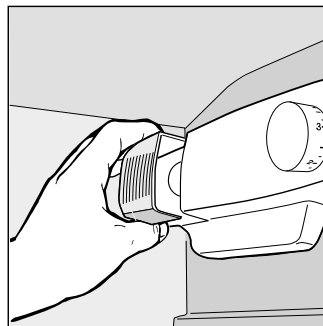

Fig. 5
- Replacing the light bulb. The bulb for lighting the interior of the refrigerator is located at the back of the thermostat box. When replacing the lamp, unplug the appliance from the electrical socket, unscrew the burned out lamp and replace it with another with a wattage no higher than 15W (fig. 5).